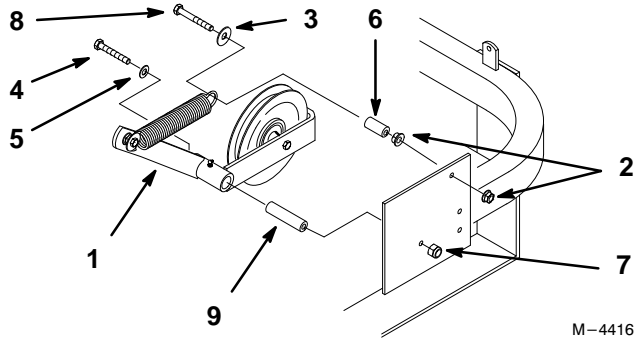

Figure 3
- Remove the spring from the old idler arm (Old idler arm not shown) (Fig. 3).
- Remove the old idler arm from the machine frame (Old idler arm not shown) (Fig. 3).
- Remove the spring from the machine frame. Discard old washer (Fig. 3).
- Install new idler arm assembly to machine frame. Use existing hardware to attach it (Fig. 3).
- Install spring to machine frame. Use existing hardware and new flat washer included in kit. (Fig. 3).
Note: New flat washer must be installed between spring and head of bolt. The spring must be installed between new flat washer and spacer (Fig. 3).